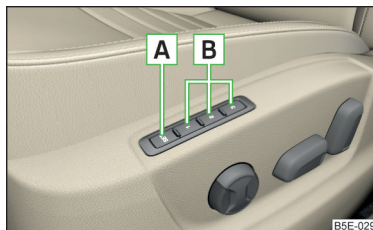

Fig. 74
Each of the three memory buttons **B** » Fig. 74 can be assigned a set position.
- Press the **SET** button (Position **A** » Fig. 74).
- Press the required memory button **B** » Fig. 74.
- » Press and hold any memory button **B** » Fig. 74 on page 83.
- » Press the **SET** button (Position **A** » Fig. 74 on page 83) and hold.